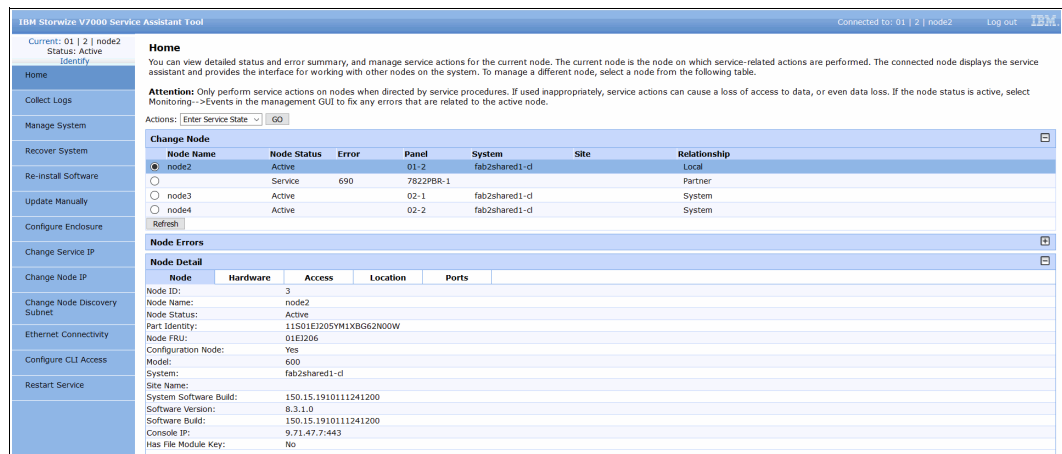

Figure 13-72 Service Assistant Tool GUI
2. After you are logged in, you see the Service Assistant Home window, as shown in Figure 13-72. The SAT can view the status and run service actions on other nodes in addition to the node to which the user is logged in.
- The current node canister is displayed in the upper left corner of the GUI. As shown in Figure 13-72 on page 864, this is node2. Select the node that you want in the **Change Node** section of the window. You see the details in the upper left change to reflect the selected node canister.